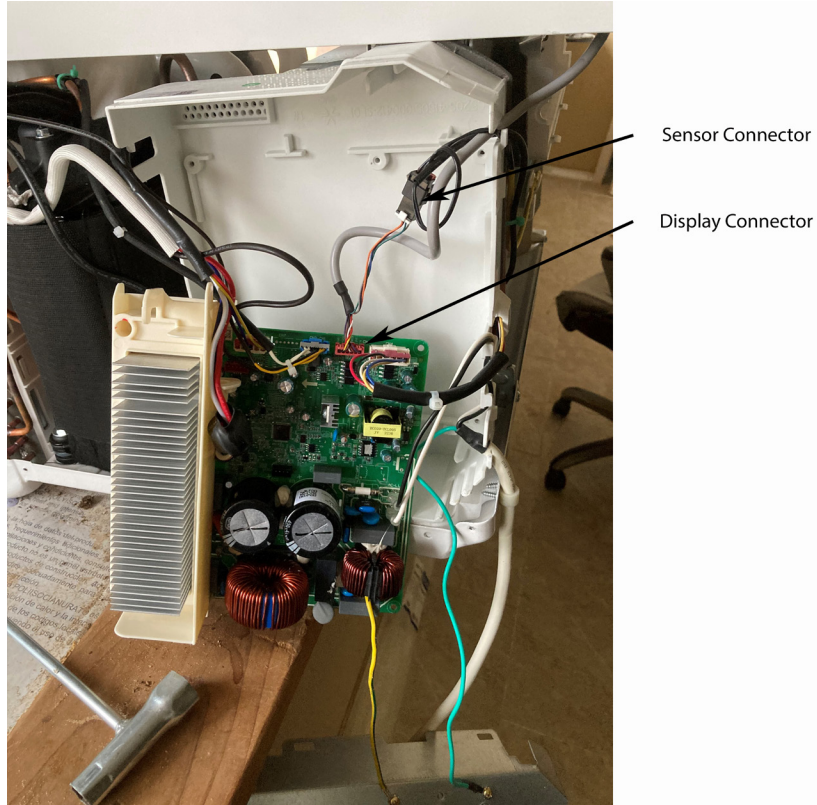

Figure 601
5. Disconnect display connector from main PCB. See Figure 601.
6. Disconnect Sensor Connector from Display PCB HarnerSS. See Figure 601.